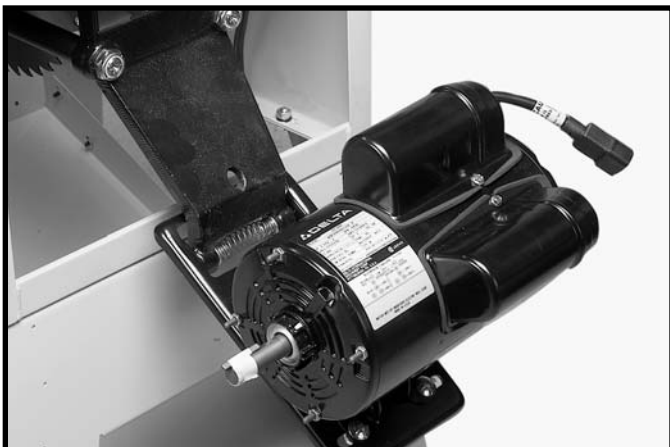

Fig. 15
3. Fig. 15, illustrates the motor and motor mounting plate assembled to the rear of the saw.